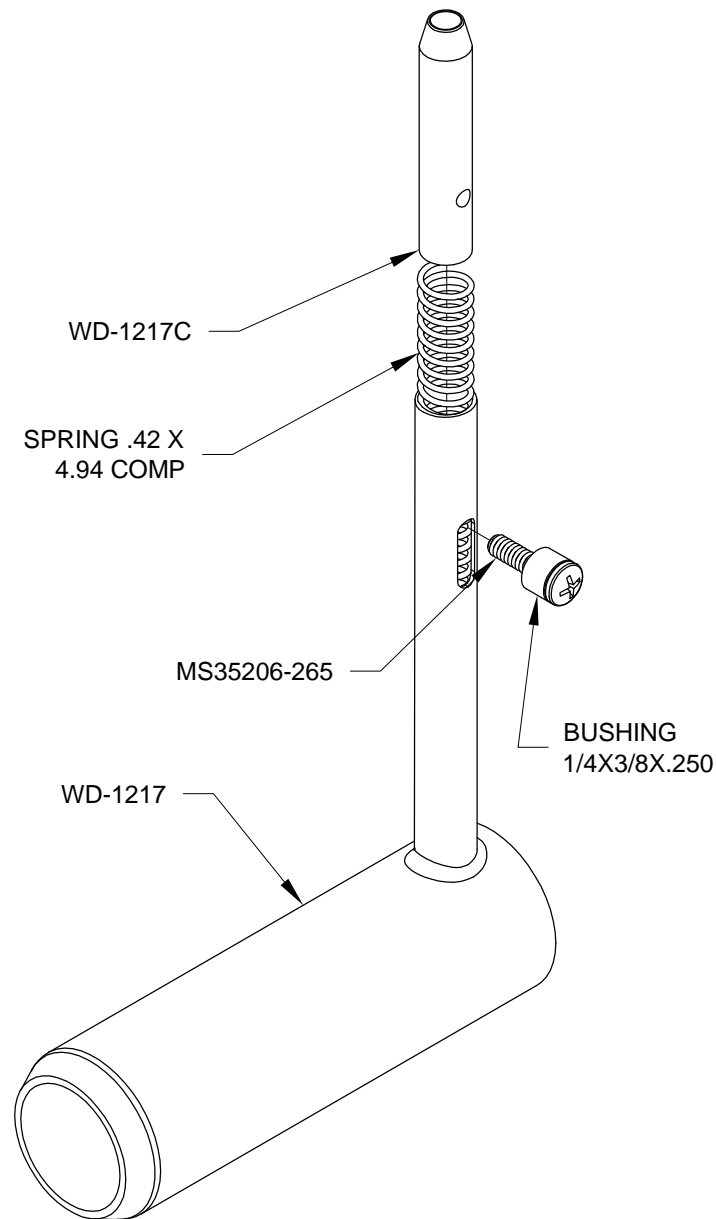

FIGURE 3: FUSELAGE PIN ASSEMBLY (RIGHT SHOWN)
Step 4: Install the SPRING .42 X 4.94 COMP and WD-1217C Fuselage Pin Stopper into the WD-1217 Fuselage Pin. Apply a small amount of Loctite #242 (or equivalent non-permanent thread lock) to the screw threads and insert the screw as shown in Figure 3. When properly installed the fuselage pin stopper can be moved up and down by applying pressure to the screw on the side of the fuselage pin assembly.